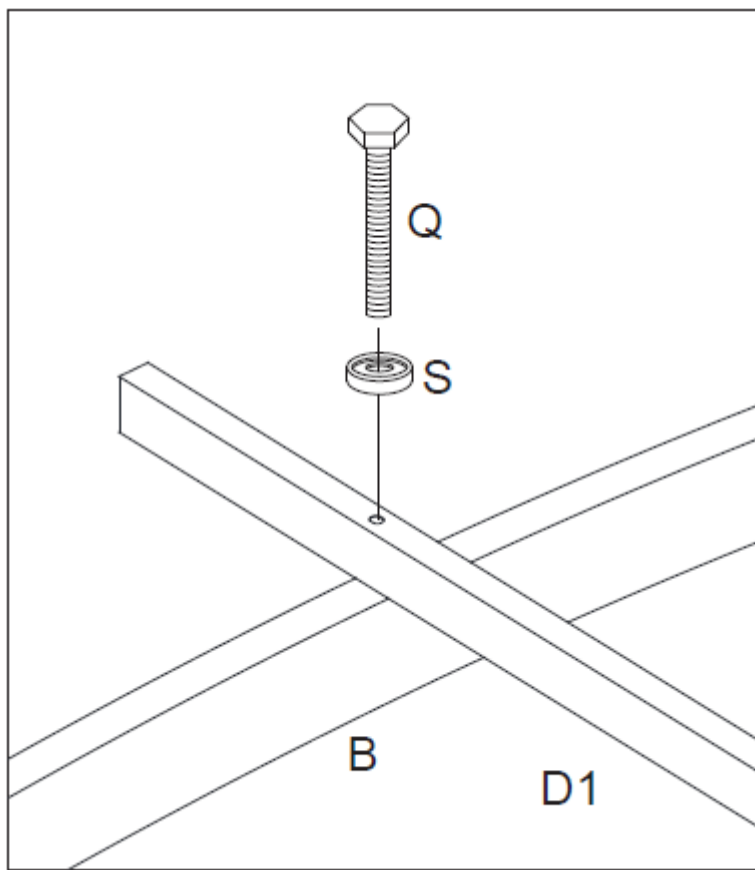

Figure 7-1
Step 7A: Attach the assembled Inside Lintels (D1) to the Curved Top Beam (B) using Bolts (Q) and Plastic Washers (S). **Tighten Bolts.** See Figure 7-1.